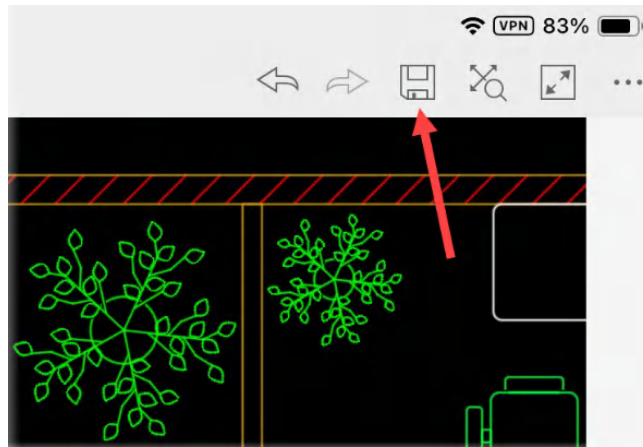

Figure 15.28: The AutoCAD mobile Save icon (disk symbol, top-right)
9. You can now save the DWG file to the cloud by clicking on the disk icon in the top-right corner of the AutoCAD mobile application window, as shown in *Figure 15.28*.